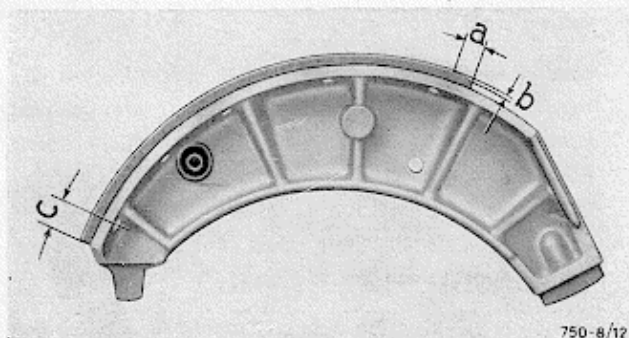

Fig. 12 - Bevel cuts for the front-wheel brake-shoe linings
- c) The dimensions of the bevels cut at the ends of the front-wheel linings must be as shown in Fig. 12. The rear-wheel linings are un-bevelled.
- d) In the event that un-bored linings are fitted, we recommend that, in order to eliminate difficulties, the length of lining beyond the last rivet does not exceed in length the value shown in Fig. 12.